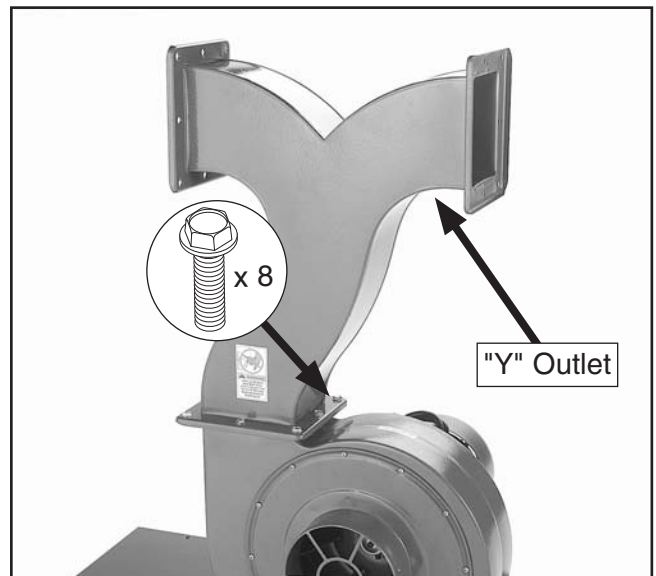

Figure 12. Outlet connector installed.
5. Secure the metal "Y" outlet to the impeller outlet with (8) $\frac{5}{16}$ "-18 x $\frac{1}{2}$ " flange bolts, as shown in **Figure 12**.